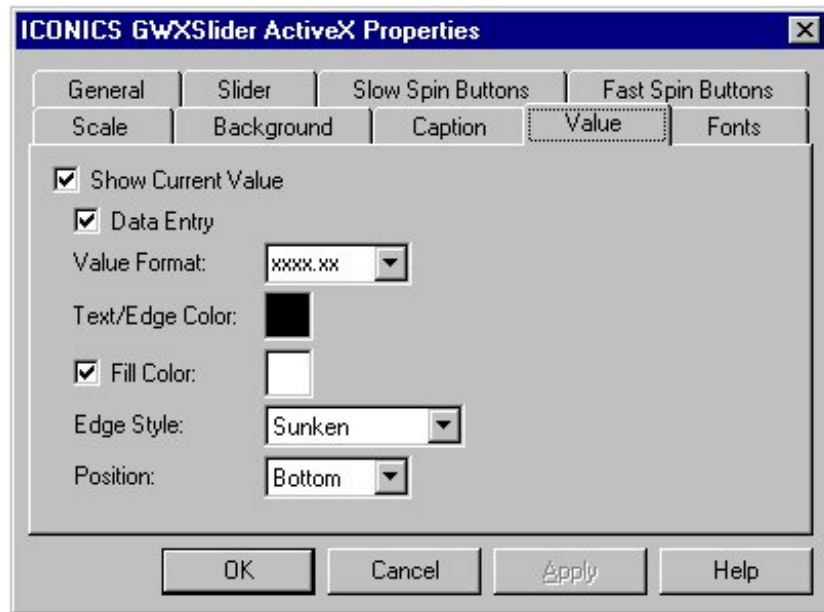

Figure 17-11: GWXSlider ActiveX Properties Dialog Box: Value Tab
2. Select the Value tab (Figure 17-11).